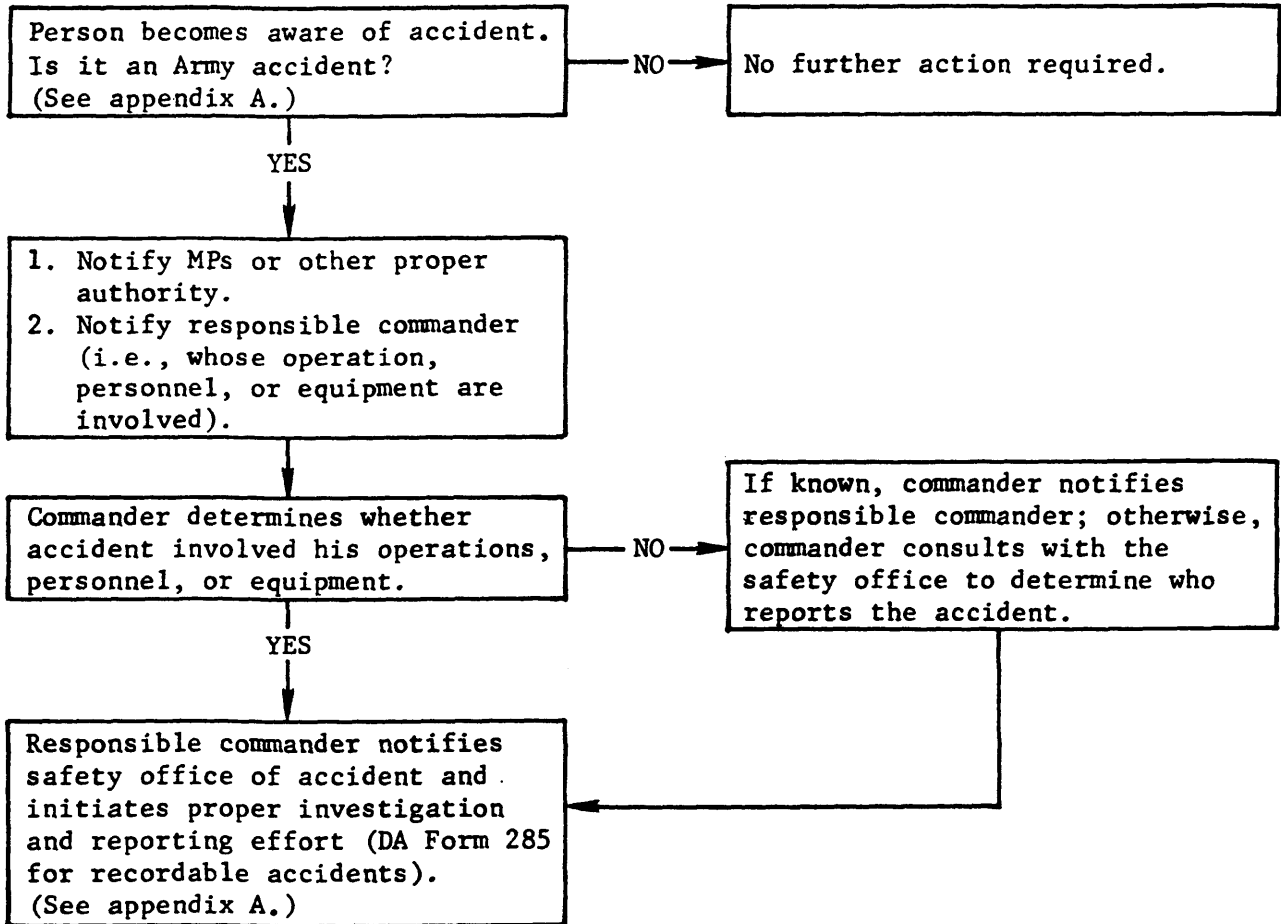

FIGURE 3-1--Summary of Actions from Accident Identification to Investigation
2. Determine proper investigation and reporting actions. Follow the steps in Figure 3-1 to decide which actions the accident requires.